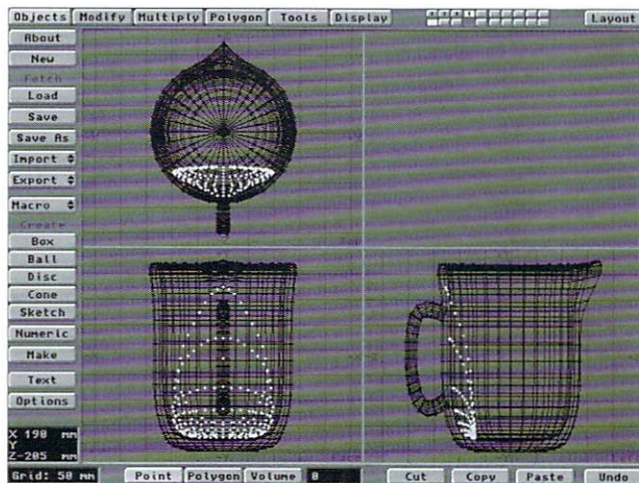

Figure 5: The second water morph target.
- Select the **Taper1** tool (**Modify** panel). With the center of the tool over the bottommost edge of the object, as seen from the Top (XZ) view, **Taper** it by a factor of .5. You will have to **Move** (t), **Rotate** (y) and **Stretch** (h) (**Modify** panel) the object a little so that it fits correctly within the water container, but you should end up with the shape displayed in Figure 5. **Save** or **Export** this object as "Water3.lwo".